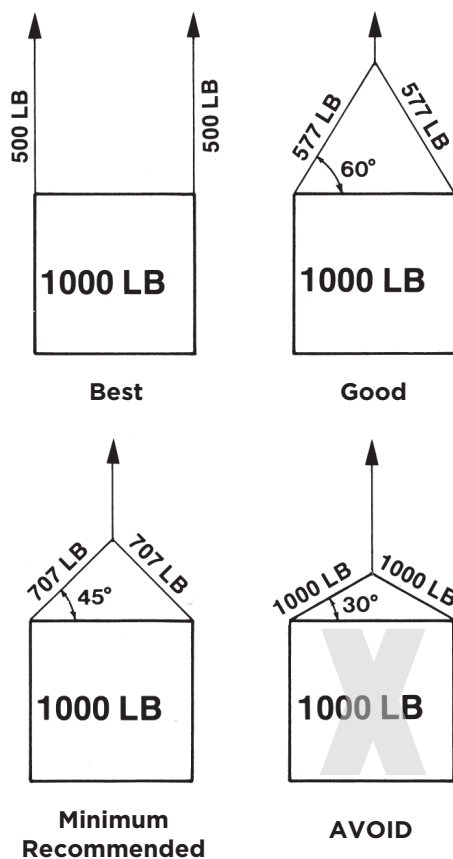
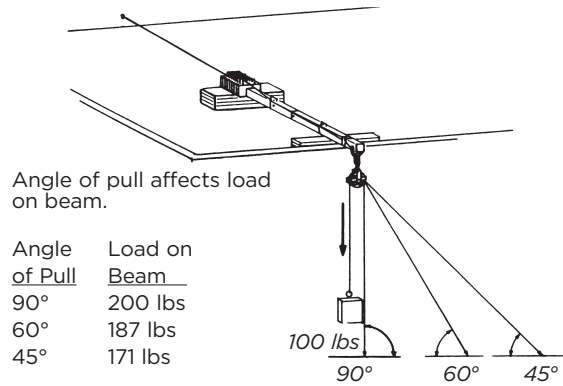

Figure 24-18: Effect of Sling Angle on Sling Load
Figure 24-19: Effect of Pull Angle on Beam Load
- Understand the effect of sling angle on sling load (Figure 24-18) and pull angle on beam load (Figure 24-19).